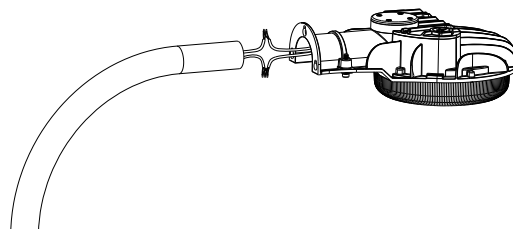

Figure 2
2. Connect wires (Figure 2) Put the fixture into the arm.